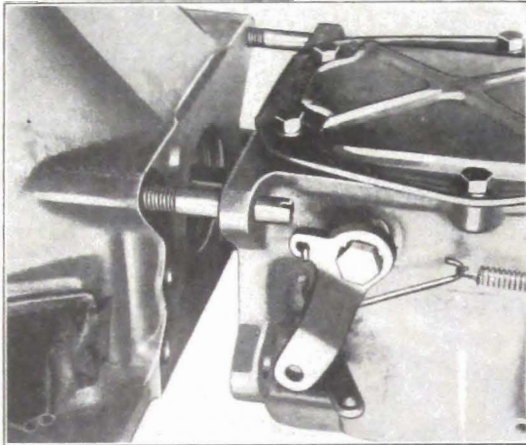

Fig. 6-114. Transmission Guide Pins
1. Remove rear axle and transmission. See Fig. 6-114.